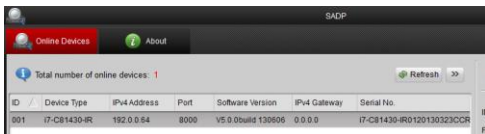

Figure 4-3 Select a Device
- 1). Select the device to be modified in the device list as shown in Figure 4-3. The network parameters of the device will be displayed in the Modify Network Parameters panel on the right side as shown in Figure 4-4.